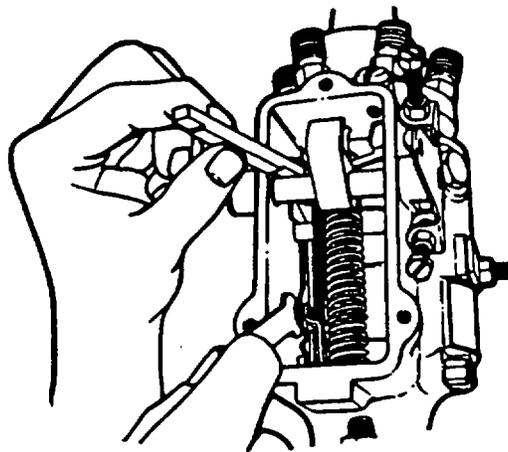

FIGURE 3-103. Checking Clearance at Linkage Hook
- ce. With throttle lever (19) held in wide open position, use linkage gage (18914) to check clearance between rear of shutoff shaft (30) and vertical tab on linkage hook (46), refer to FIGURE 3-103.